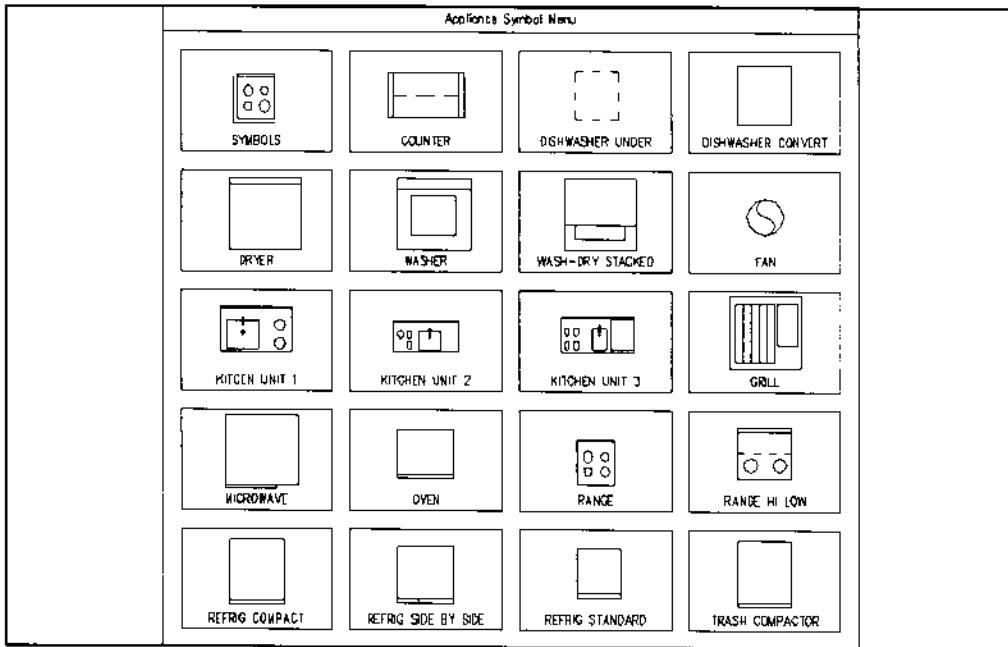

Figure 7.
3. All icon symbols outlined in blue activate a submenu of additional symbols, as illustrated in the Symbols icon box in Figure 7.
Appliance Symbol Menu Figure 7